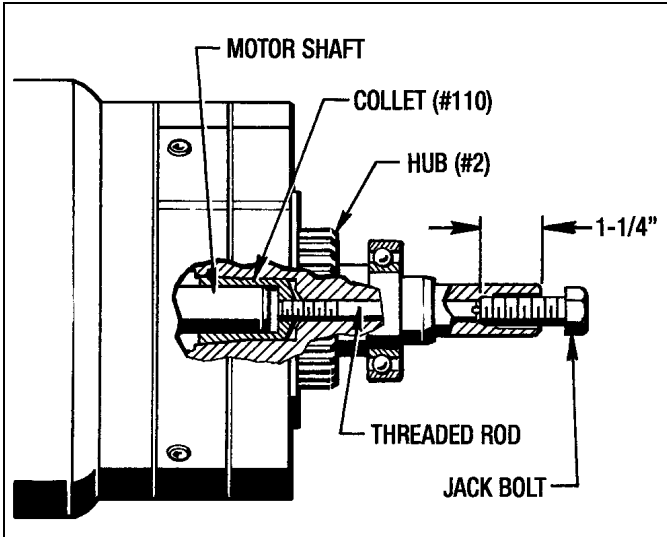

Figure 7.4 - Loosening Collet (#110) from Hub (#2)
2. Insert the **Threaded Rod** into the end of the Hub (#2) and thread it into the Collet (#110) with a flat head screw driver. Leave about 1-1/4" from the end of the Hub (#2) as shown in *Figure 7.4*.